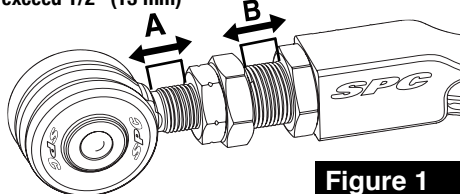

Figure 1
4. Adjust SPC arm to be approximately same length as OE arm. Fully thread each jam nut so it is closest to bushing. Ensure equal threads are visible on either side of adjusting hex, see **Figure 1**.
CAUTION: Maximum length of arm is reached when thread on either side of large hex is 1/2" (13 mm), see Figure 1. DO NOT lengthen arm beyond this point. Exceeding range of adjustment on arm may cause it to fail and voids warranty.